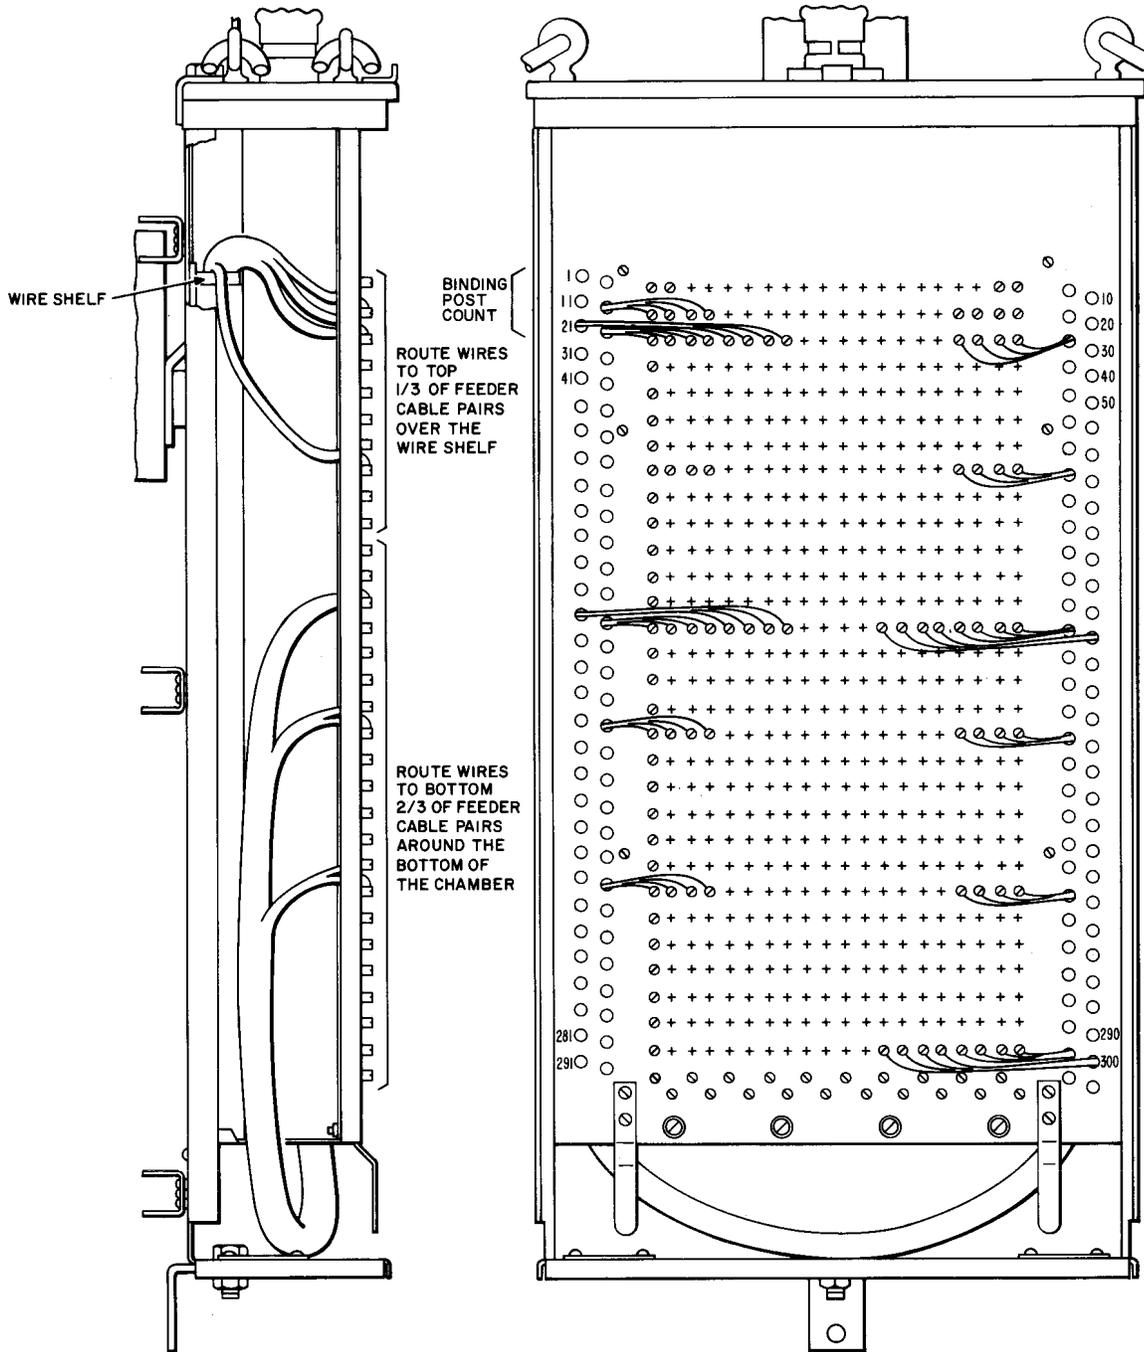

Fig. 1—Running Cross-Connecting Wire
(numbering strips on BG- and BF-type cable terminals) for identification (Fig. 1).♦
- (1) In 100-, 200-, 300-, and 400-pair terminals equipped with wiring shelves, route cross-connecting wire terminating on the top third of the feeder cable pairs over the wiring shelf as illustrated in Fig. 1. Run cross-connecting wire to the remaining feeder cable pairs around the bottom of the chamber behind the wire guards. In the case of the 600- or 900-pair terminal, route cross-connecting wires over any of the three wiring shelves in the back of the chamber or around the bottom of the